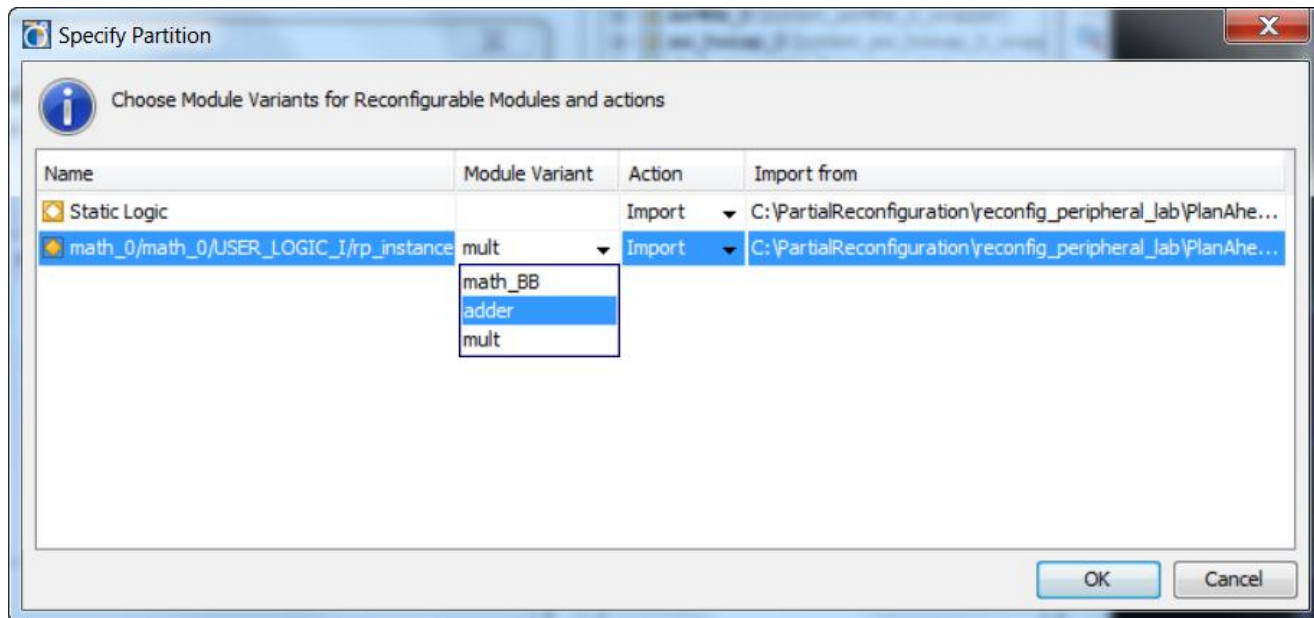

Figure 26: Selecting Adder Module Variant
7. For the `rp_instance` row, click the Module Variant column drop-down arrow, and select **adder** as the variant to be implemented, as shown in Figure 26.